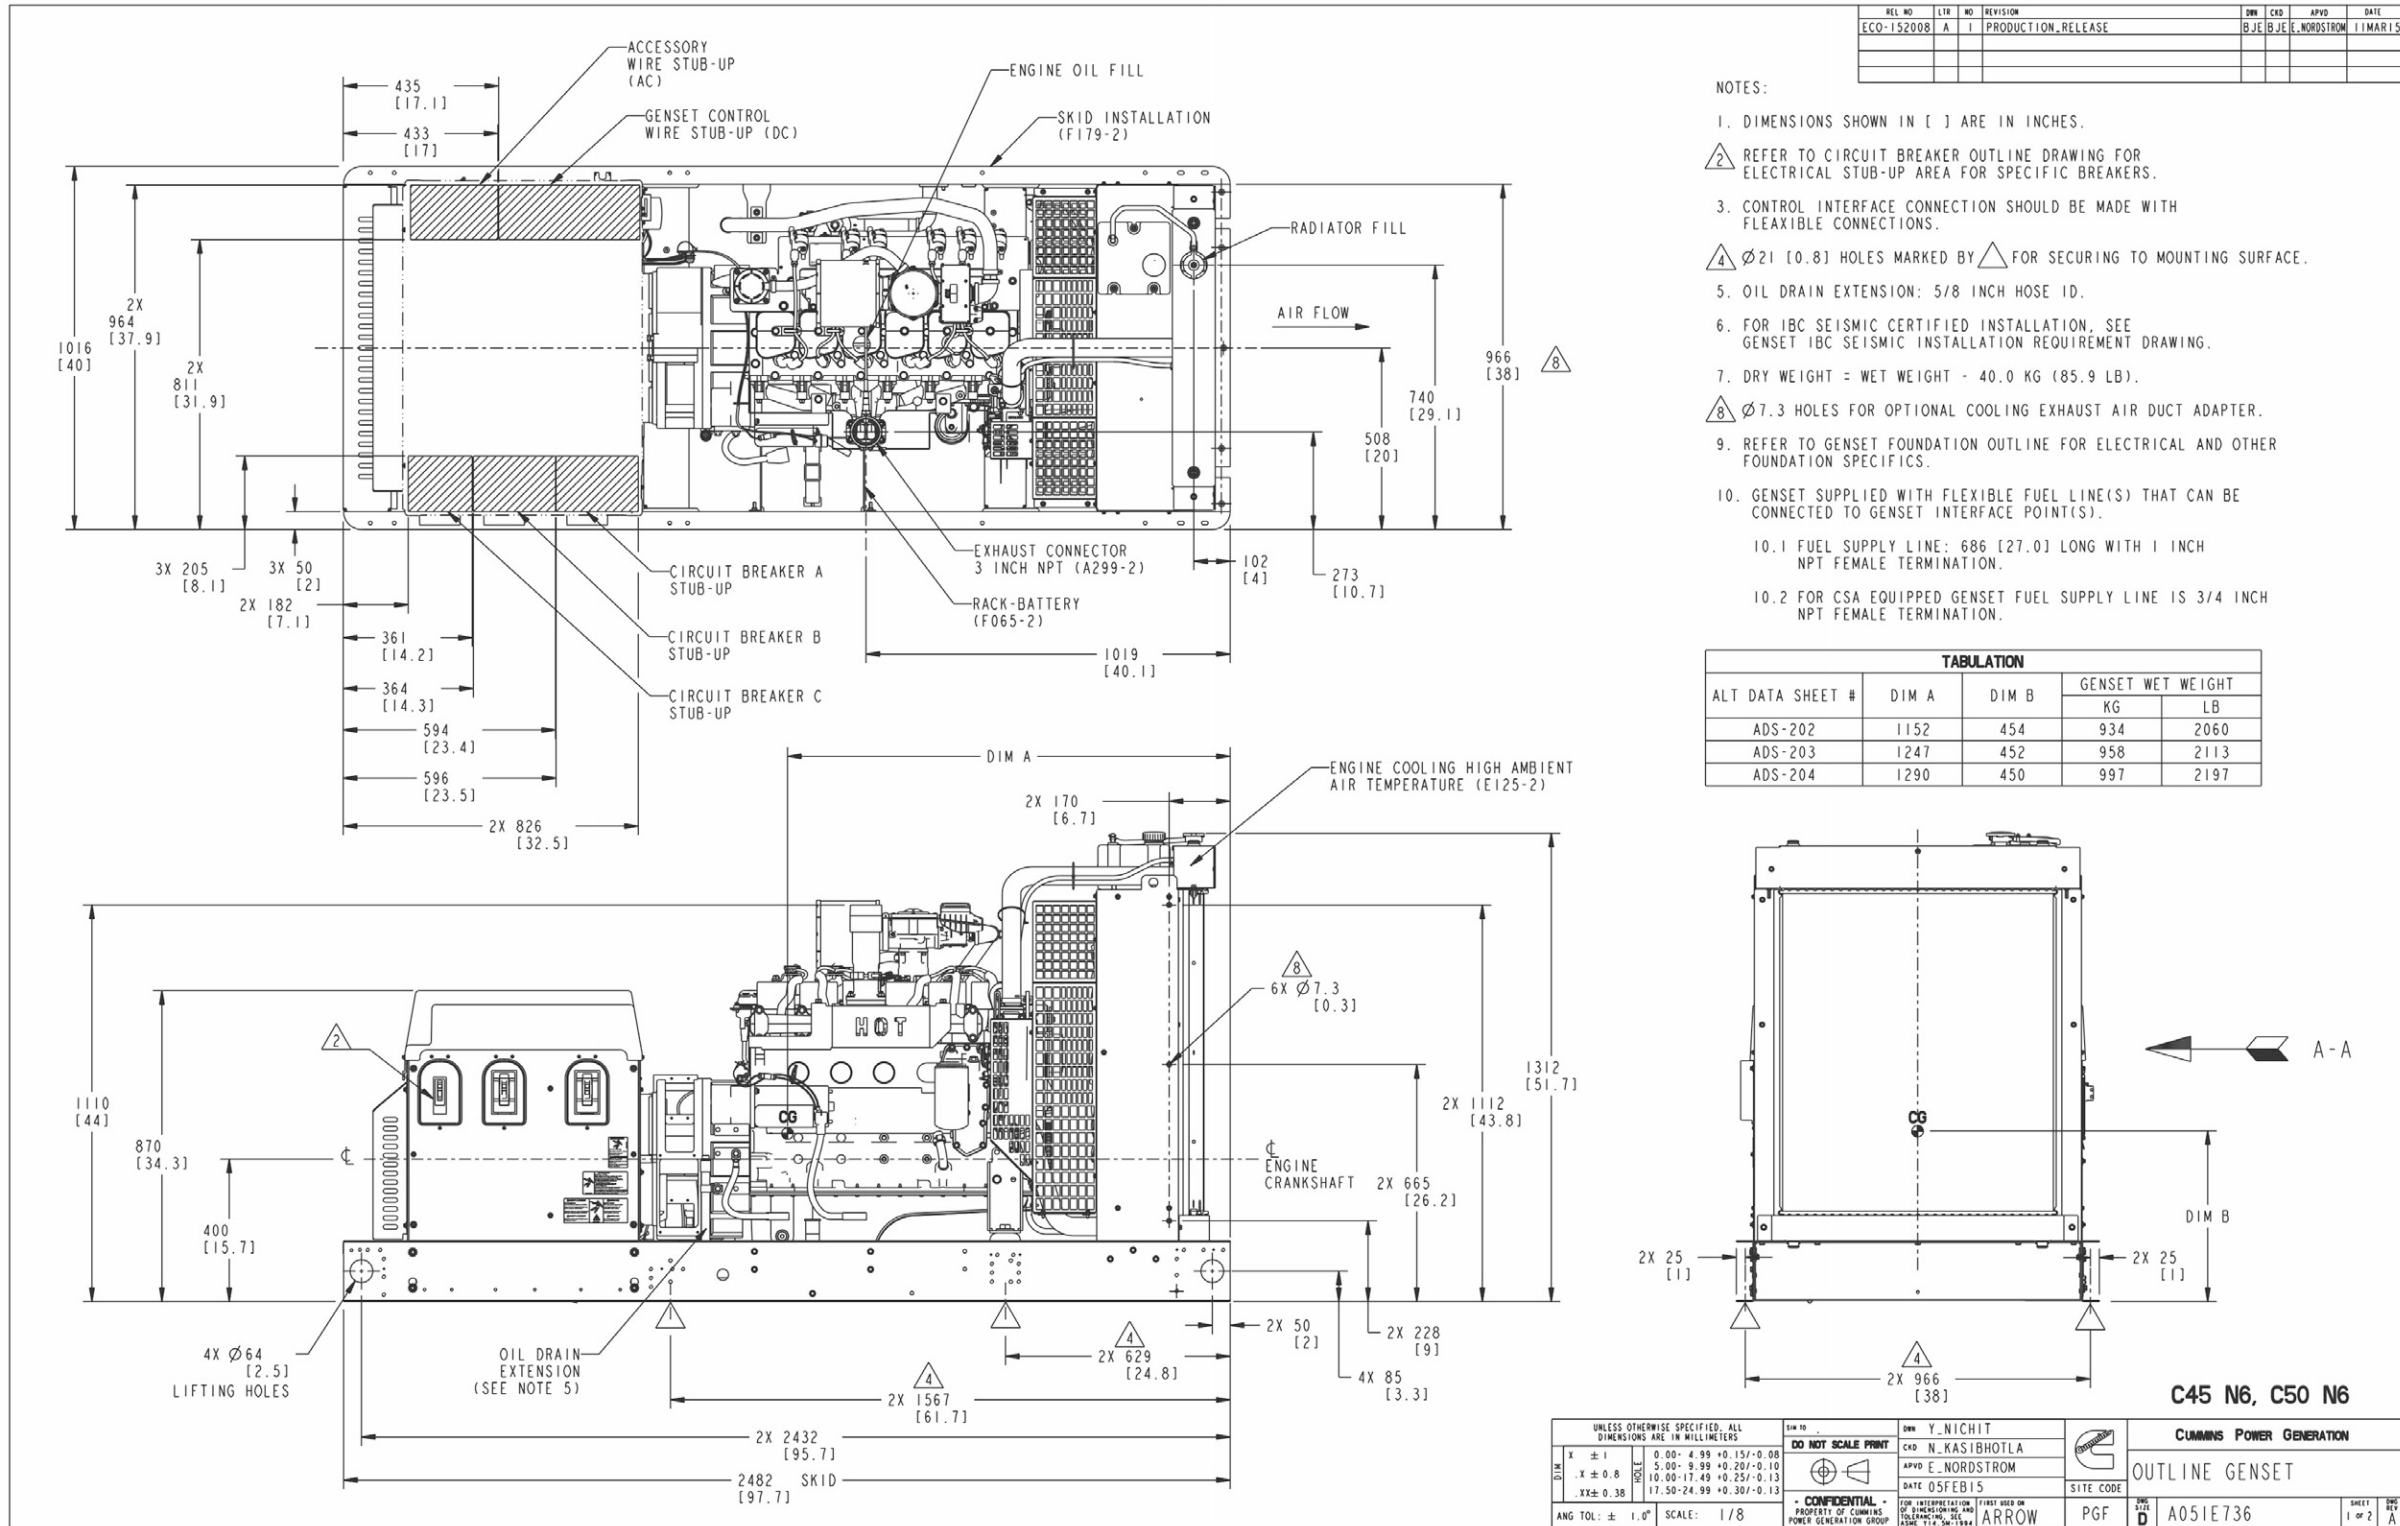

FIGURE 33. GENERATOR SET OUTLINE, 45-50 KW (SHEET 1 OF 2)
- Figure 33. Generator Set Outline, 45-50 kW (Sheet 1 of 2) 105